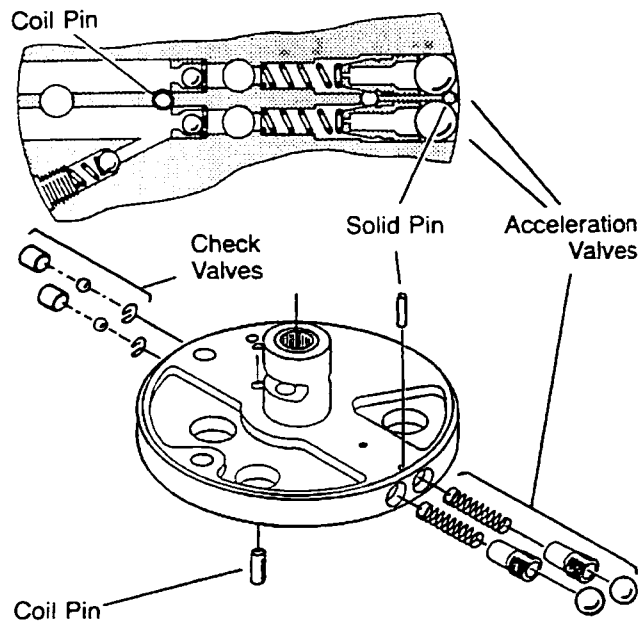

Fig. 13
See Figure 13.
**22** Press solid pin from pintle housing. See Figure 13.